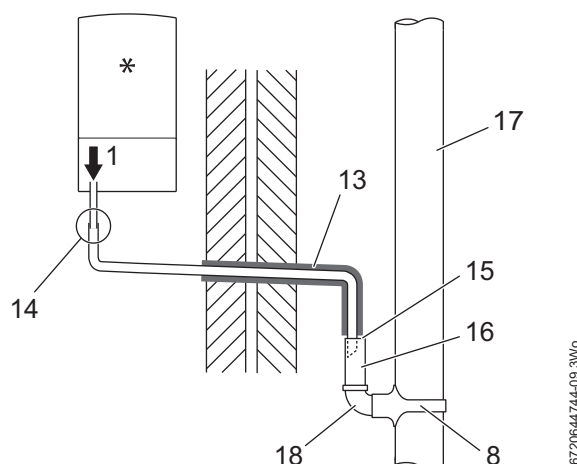

Fig. 7 Disposal into a rainwater down pipe
- Refer to figure 7 when a rain water down pipe is used to dispose of condensate.